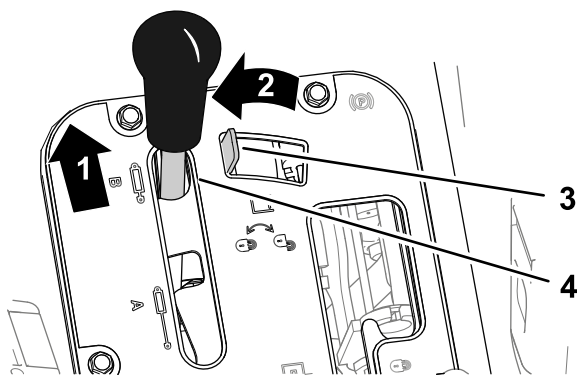
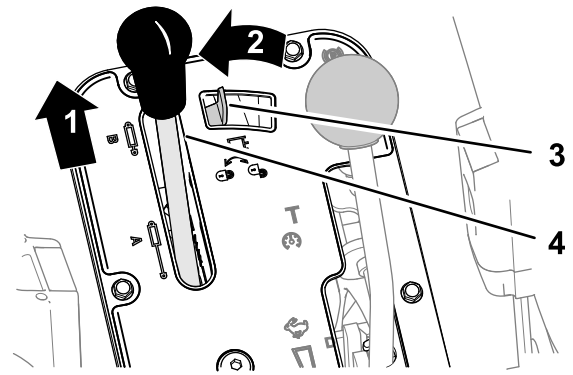

Figure 83
Figure 84
1. Push forward the hydraulic-lift lever (Figure 83 or Figure 84).
2. Move the hydraulic-lift lock left to engage the lock (Figure 83 or Figure 84).